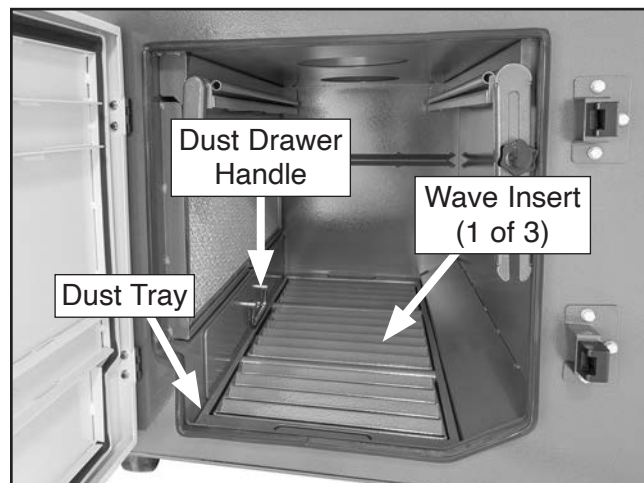

Figure 48. Location of dust collection components.
6. Pull dust drawer handle shown in **Figure 48** to remove drawer from under spark arrestor filter.
7. Lift and remove dust tray from machine (see **Figure 48**).
8. Remove (3) wave inserts from dust tray (see **Figure 48**).